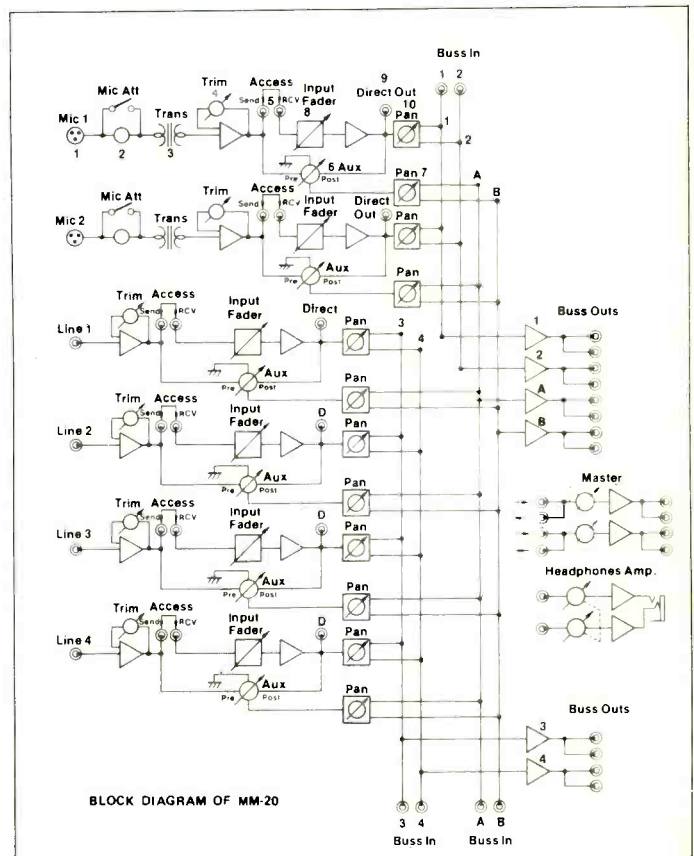

Fig. 1: Tascam System 20: Block diagram of MM-20.
- The MM-20 Main Mixer: This is a 6-input (two mic inputs, four line inputs) basic console with six output busses and two line outputs. *Figure 1* shows the block diagram. The MM-20 lists for \$395.